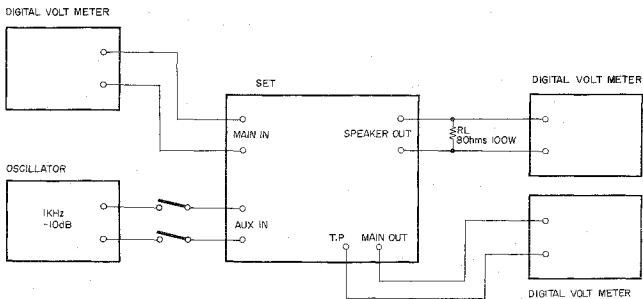

Fig. 10 Instrument Connections
3. POWER INDICATOR LED ADJUSTMENT (Refer to Figs. 10, 11)